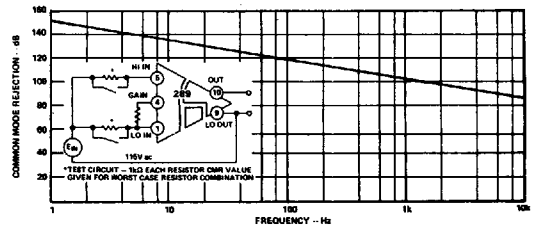

Figure 11. Typical Common Mode Rejection vs. Frequency at a Gain of 1V/V, CMR is typically 6dB Lower than at a Gain of 100V/V
**Common Mode Rejection:** Input-to-output CMR is dependent on source impedance imbalance, signal frequency and amplifier gain. CMR is rated at 115V ac, 60Hz and 1kΩ balanced source at a gain of 100V/V. Figure 11 illustrates CMR performance as a function of signal frequency. CMR approaches 156dB at dc with source imbalance as high as 1kΩ. As gain is decreased, CMR is reduced. At a gain of 1V/V, CMR is typically 6dB lower than at a gain of 100V/V.